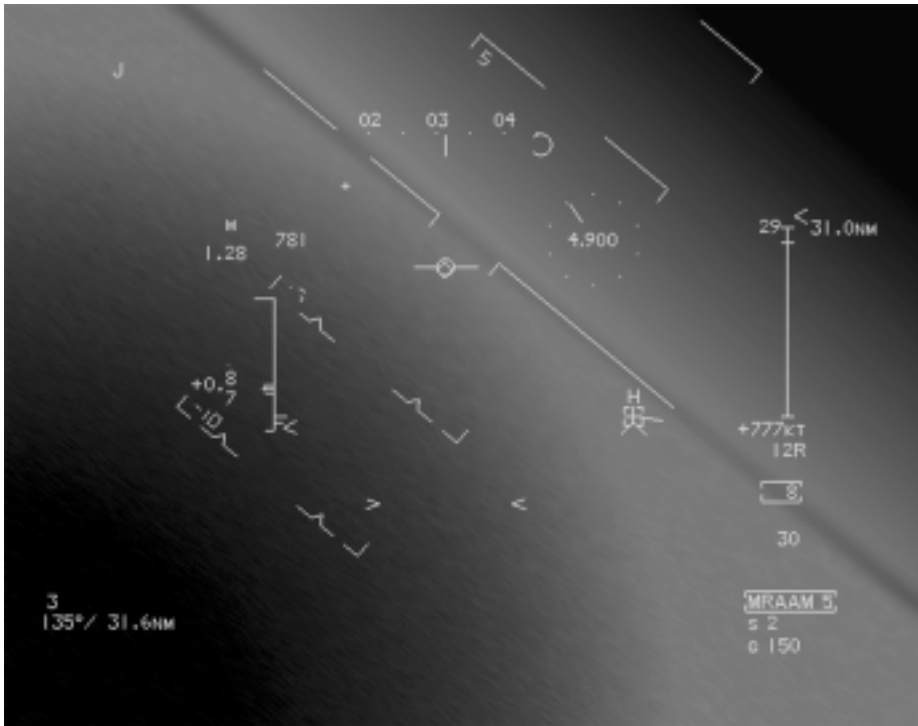
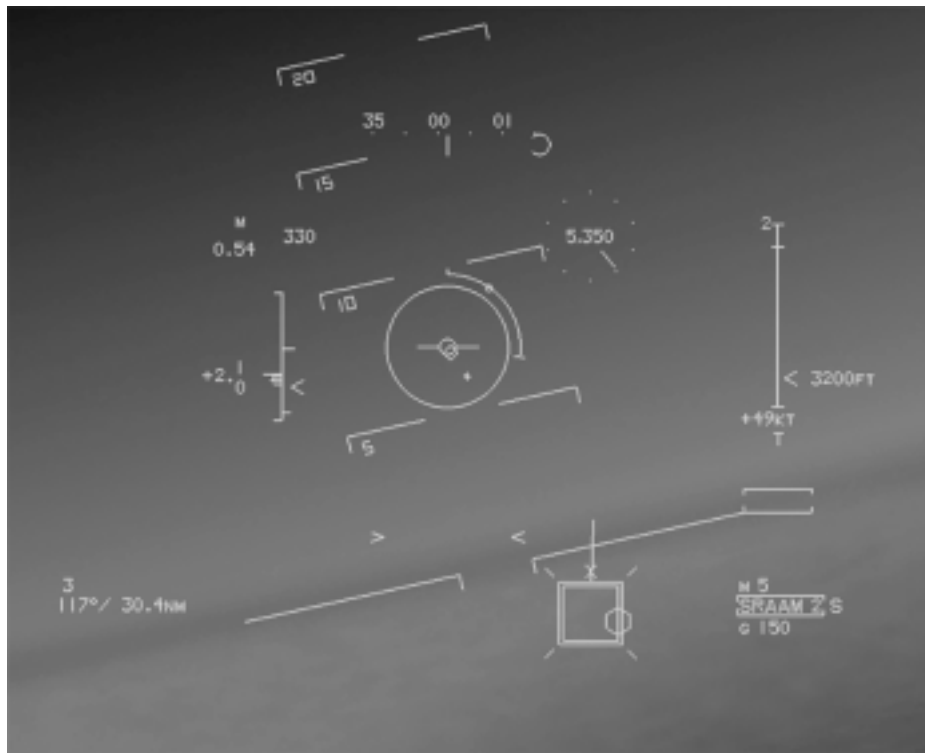

Figure 1.6 - Air-to-Air Attack AMRAAM
Figure 1.7 - Air-to-Air Attack SRAAM
- Air-to-air attacks Figure 1.6, Figure 1.7, Figure 1.8